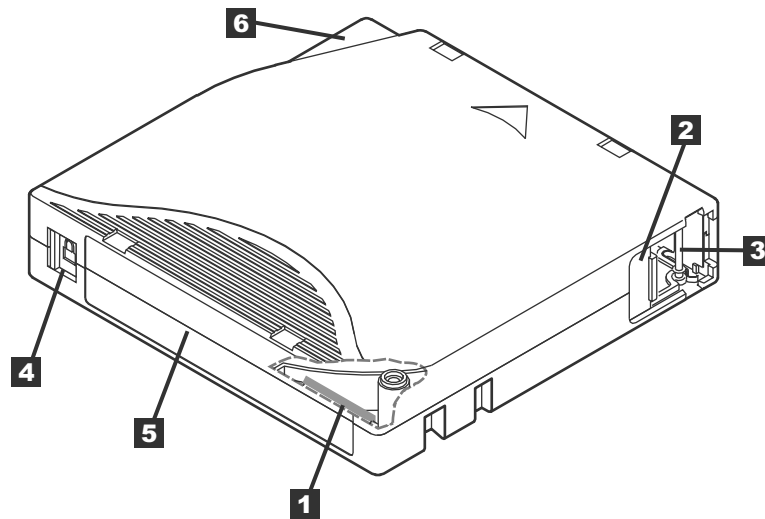

Figure 18. LTO Ultrium data cartridge
Figure 18 on page 23 shows the LTO Ultrium data cartridge and its components.
2. Ensure that the write-protect switch (see **3** in Figure 18 on page 23) is properly set. See “Setting the write-protect switch on tape cartridges” on page 24.